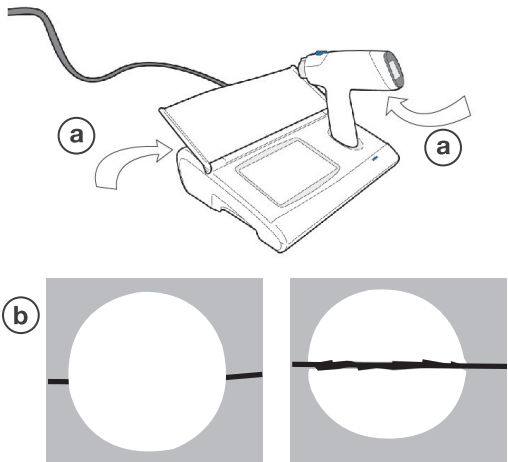

Figure 35 Example of a tamper-evident seal that is intact (left) and broken (right)
2. **Inspect the labels and tamper-evident seals (see Figure 35).**